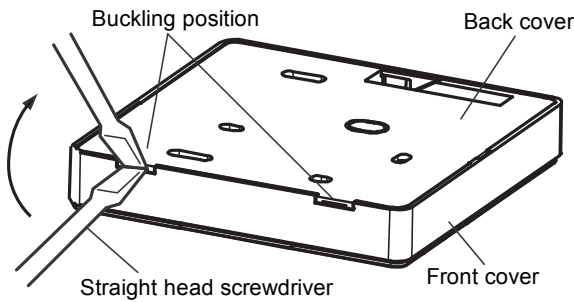

Figure 5
1) Use straight head screwdriver to insert into the buckling position in the bottom of wire controller, and spin the screwdriver to take down the back cover. (Pay attention to spinning direction, otherwise will damage the back cover!) (Fig.5)